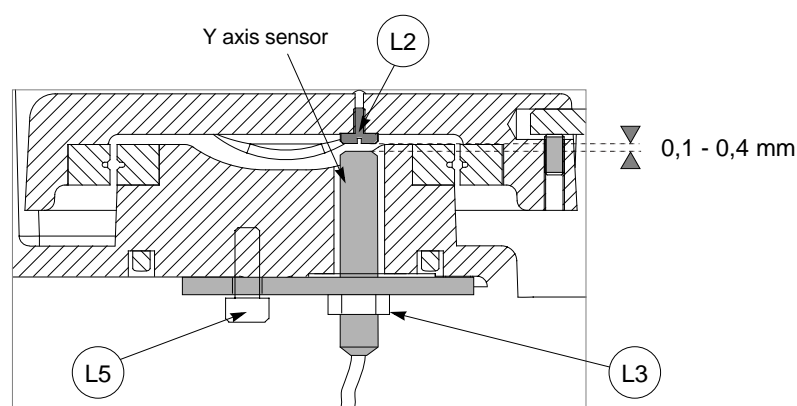

Fig. 39
- 7) loosen the nut (L3), unscrew the sensor from the plate and remove (fig. 39).
- 9) place the new sensor in position, tightening it until it almost touches the screw (L2) (fig. 39).